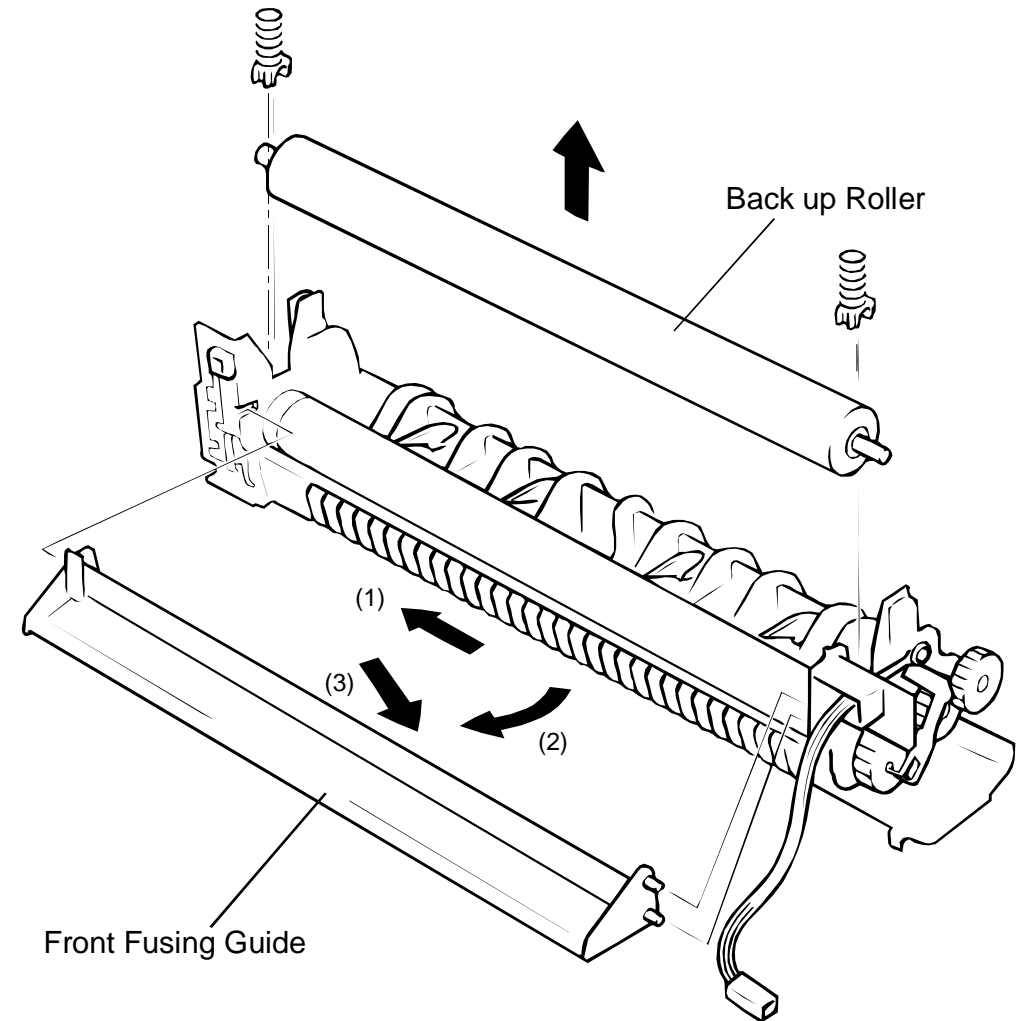

Figure 4-25. Backup Roller and Front Fusing Guide Removal
5. Refer to Figure4-25. 1)Move the front fusing guide board to the left side once, 2)remove the right side of the guide board, 3) remove the left side of the guide board.